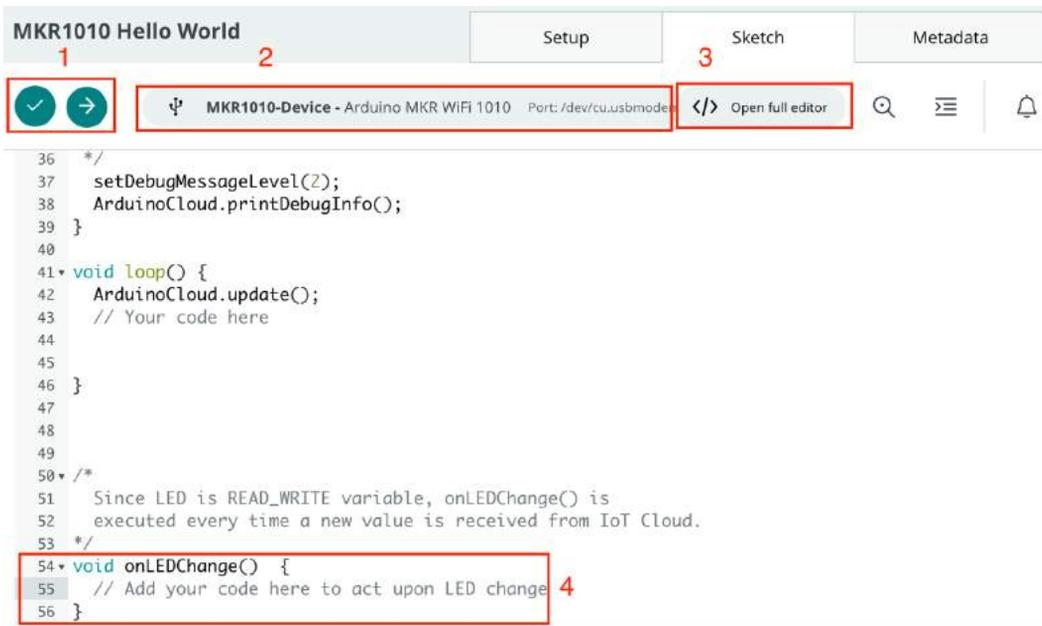

Figure 2.14 – Mini web editor
3. The Arduino Cloud Editor has two variants – one is basic and the other is full. In the **Thing** tab shown in *Figure 2.14*, we can see the mini version of the editor, but if you want to move to the full editor for the installation of libraries or other stuff, then click on the `</>` button.